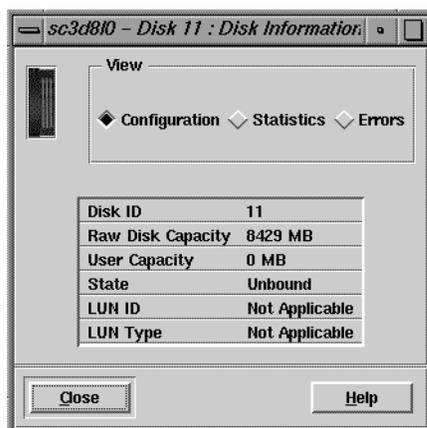

Figure 4-8 Disk Information Window: Configuration Information
The Disk Information window displays configuration, statistics, or error information. When you open the window, it displays disk module configuration information, as shown in Figure 4-8.
3. In the disk field near the bottom of the window, double-click the disk module you want to examine. The Disk Information window opens, displaying disk module configuration information, as shown in Figure 4-8.
To display disk module configuration information, click the leftmost radio button in the View area of the Disk Information window, if necessary. This information is displayed when you first open the Disk Information window; see Figure 4-8 for an example.